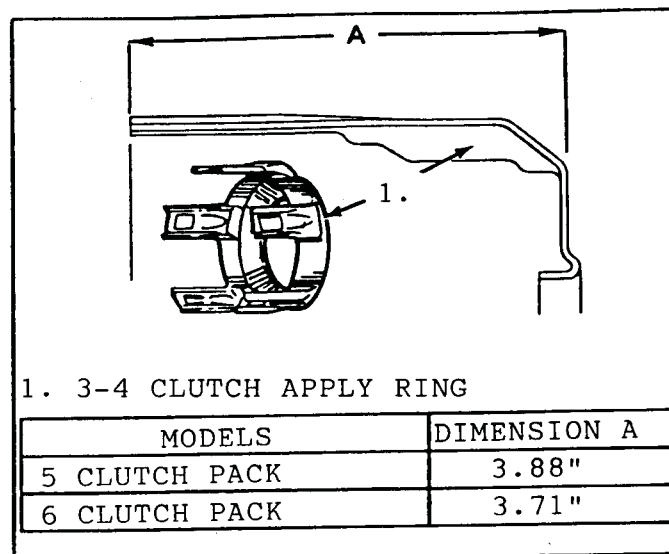

Figure 76
6. Inspect the 3-4 clutch apply ring for bent legs, and for proper length of legs (See Figure 76).